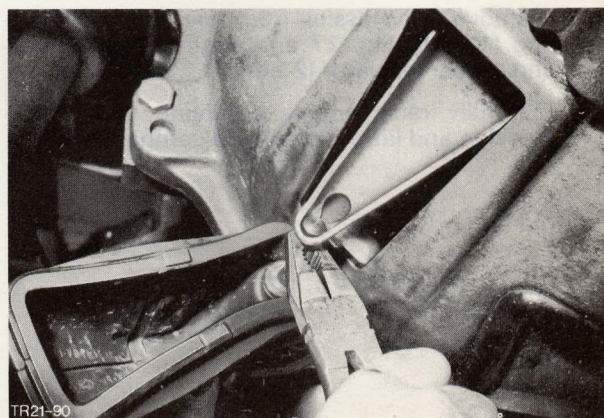

Fig. 24. Unhook clutch cable from release lever
19. Pull back gaiter and unhook clutch cable from release lever, Fig. 24.